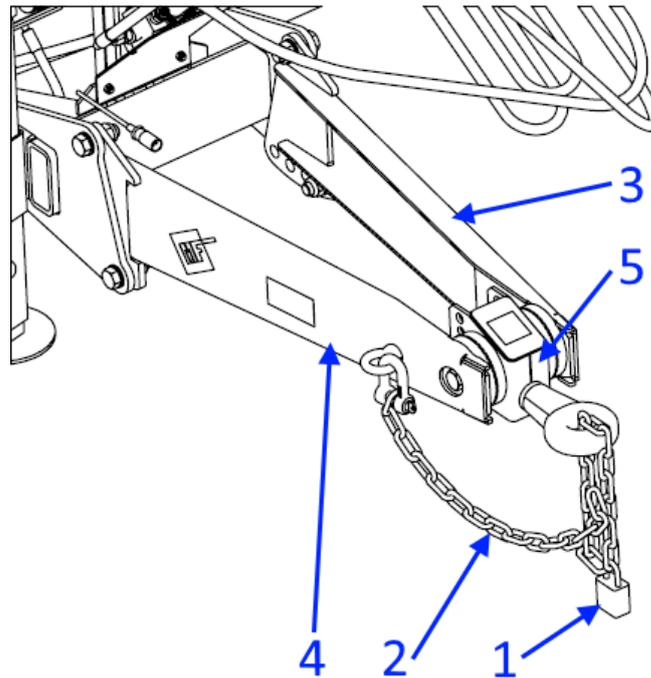

Figure 10. Drawbar components
- Fit the drawbar eye with the protection against unauthorised use (**Fig. 10 – 1**).
Key for the Z577 Bale Wrapper-drawbar components (**Fig. 10**)